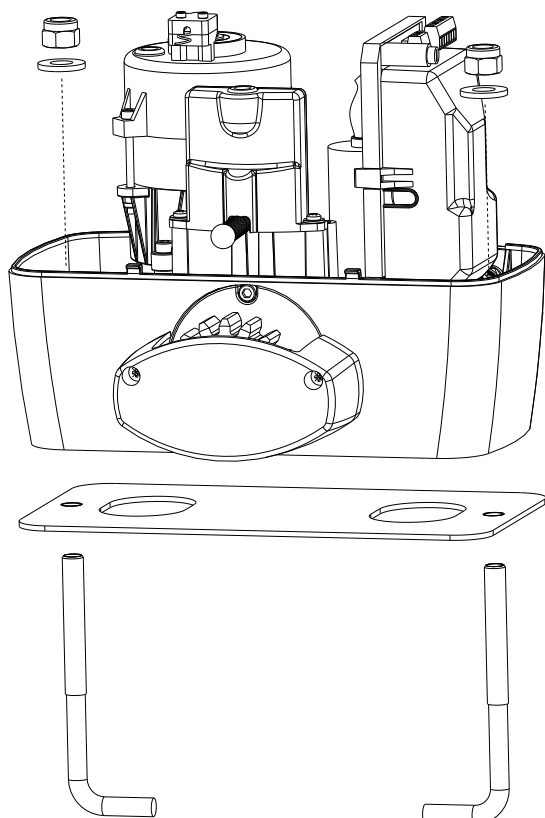

Fig. 6
4.2. Fix the motor on the foundation plate with the 2 included nuts, adjusting the side position (Fig. 6) so to respect the shown quota in (Fig. 3).